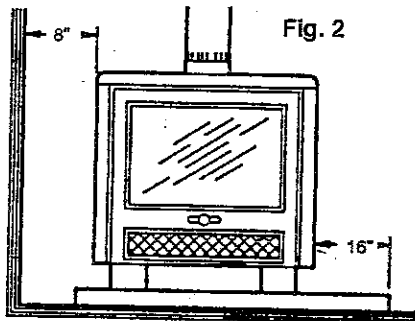

Fig. 2
3. Check Figures 2, 3 and 4. Be sure you have the clearances shown from the heater and the connector pipe to combustible surfaces. If you have a solid brick or stone wall behind your heater, you can place the heater as close as you wish to the wall. If the wall is only faced with brick or stone, treat it as a combustible wall.